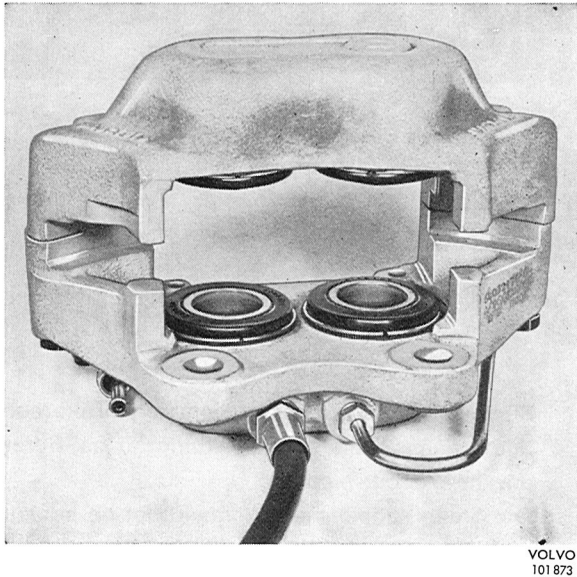

Fig. 5-22. Front brake caliper assembled
4. Install the rubber cover on the piston and housing. Install the lock rings, see Fig. 5-22.